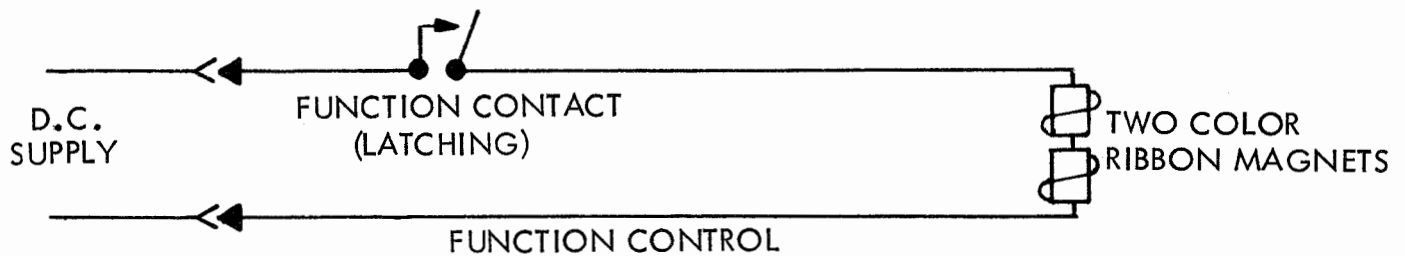

FIGURE 3
(37) Assemble the 179690 Plate to the 179692 Mounting Spacers and 192997 Bracket using two 151631 Screws and two 2191 Lock Washer.
(38) Mount the magnet assembly to the 179690 Plate using two 151630 Screws, two 2191 Lock Washers and two 7002 Washers.
(39) Route the 179718 Cable Assembly from the "R" connector through the right side frame along the handle of the stunt box around the left side frame to the ribbon magnet. Wire per Figure 3.
(40) Form the selector magnet cable and 179718 Cable so that it does not interfere with the ribbon magnet bracket assembly. Secure the two cables to the 179703 Bracket using 151658 Screw, 2191 Lock Washer, 125015 Washer and 121245 Cable Clamp.
(41) Remove 157237 Shield from selector magnet assembly and replace using 179709 Shield.